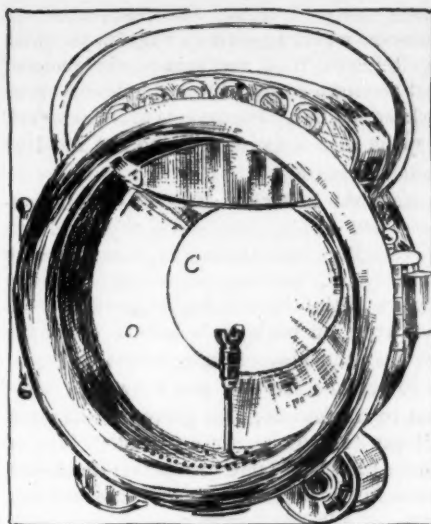

FIG. 26—ROYAL JUPITER HEADLIGHT
**Post & Lester Co.**—Particularly novel in the line of lamps marketed by this concern is the Royal Jupiter headlight, Fig. 26, made with a double lens. The inner or center lens C throws a single flood of light with practically parallel rays, whereas the outer one O diffuses the light. The object of this combination lens is that the rays projected by the lens C light up the road far in advance of the car without unnecessary loss due to too quick divergence, whereas the lens O rapidly diverges the rays, lighting the full width of the road immediately in front of the car.